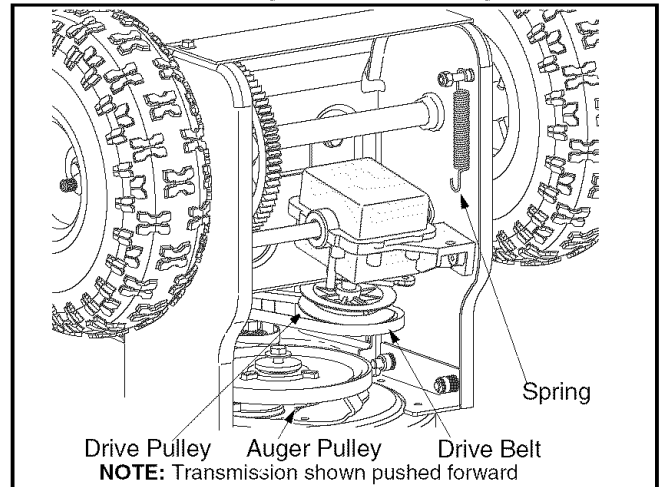

Figure 15
- Remove the spring that connects the transmission to a bolt on the engine frame. See Figure 15.